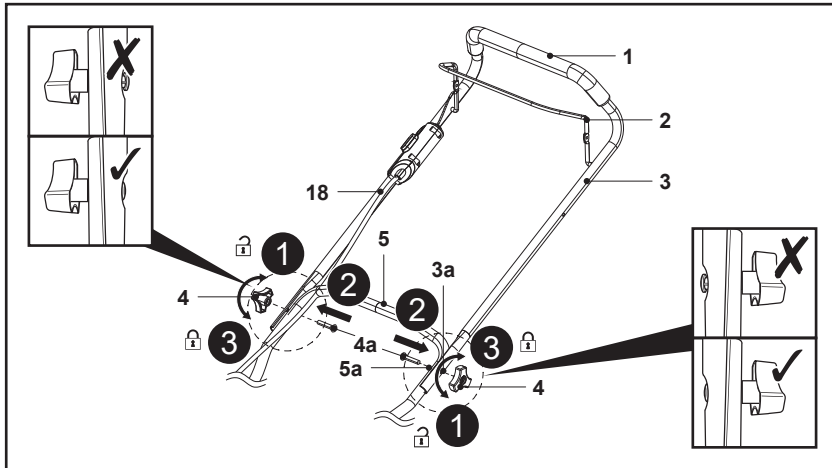

Fig. 3
1. Unscrew the two locking knobs (4) (Fig. 3, step1) from the lower handle bar (5), then remove the locking knobs (4) together with the mounting bolt (4a). Keep them handy to avoid loss.
2. Hold the grip handle (1) with the start lever (2) facing upwards.
3. Align the mounting holes (3a, 5a) of the upper handle bar (3) and the lower handle bar (5).
4. Pass the mounting bolt (4a) through the mounting holes (5a, 3a) of the handle assembly (5, 3) until the stop (Fig. 3, step 2), then attach the locking knob (4).
5. Secure the handle assembly (5, 3) by turning the locking knob (4) clockwise on the thread of the mounting bolt (4a) for tightening (Fig. 3, step 3).
6. Make sure that the control cord (18) runs on the upper side of the handle assembly (5, 3).